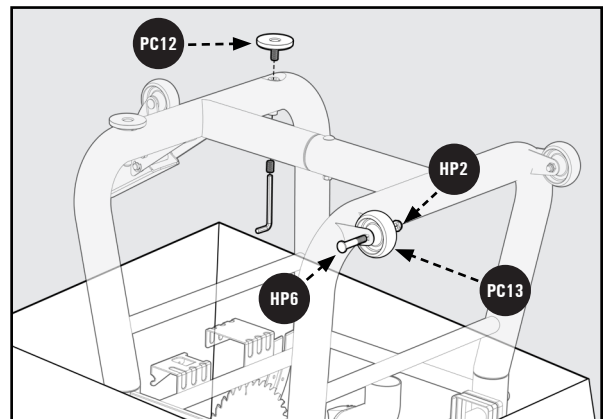

Figure 3
1. Attach the two Fixed Wheels (PC13) to the Left Leg using the (2) M8 x 53mm Carriage Bolts (HP6) and M8 Nylock Nuts (HP2). One for each wheel as shown in Figure 3.
4. The two Adjustable Feet (PC12) can be raised and lowered by rotating them clockwise or counterclockwise. The Feet may be adjusted to level the Saw and can be locked in place with the pre-assembled Set Screws using the provided 6mm Allen Wrench. See Figure 3.